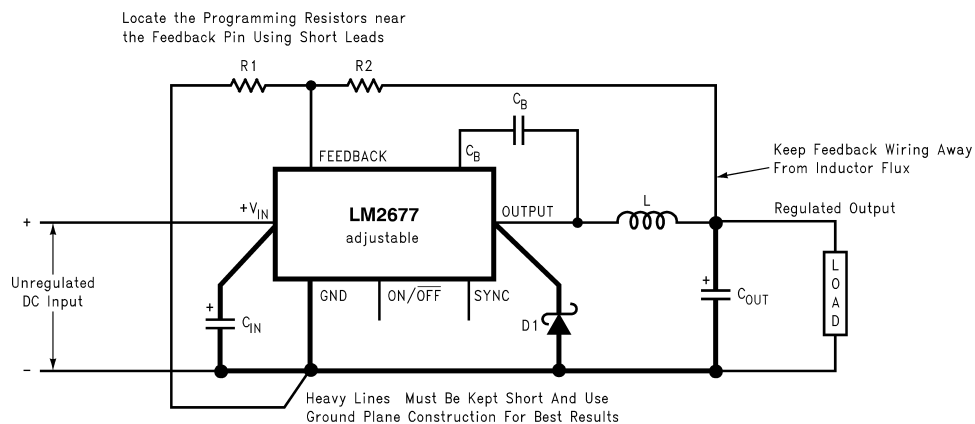

Figure 20. Basic circuit for adjustable output voltage applications
Step 2: Select an LM2677S-ADJ. To set the output voltage to 14.9V two resistors need to be chosen (R₁ and R₂ in Figure 20). For the adjustable device the output voltage is set by the following relationship: